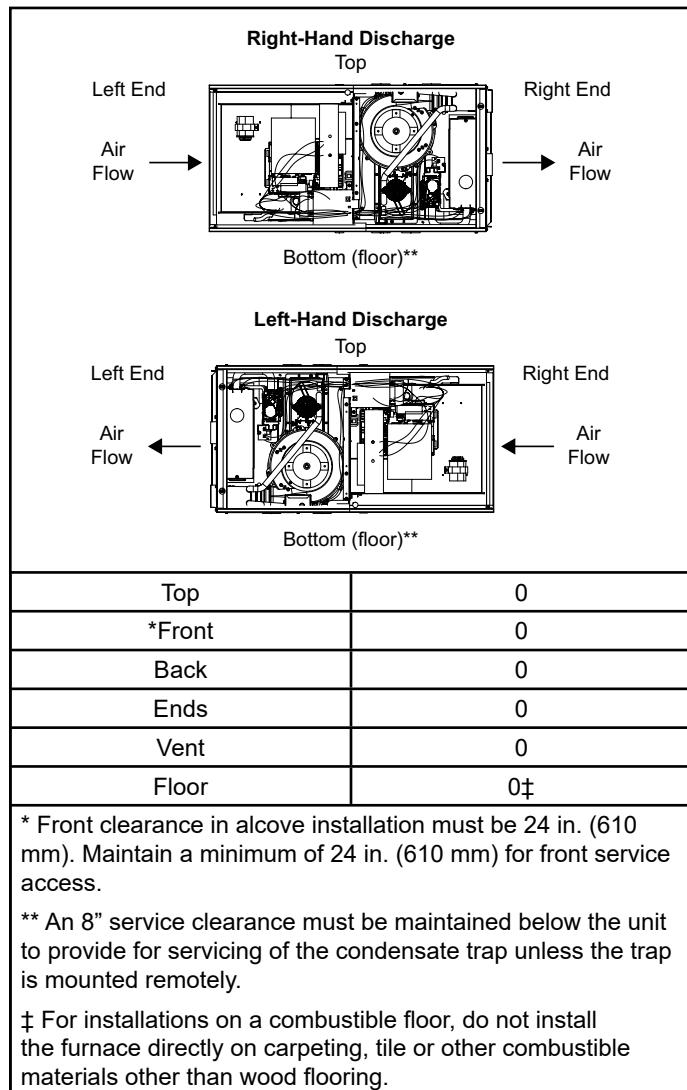

Figure 18. Horizontal Application Installation Clearances
Refer to Figure 18 for clearances in horizontal applications.
1. Select location for unit, keeping in mind service and other necessary clearances. See Figure 18.